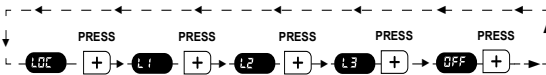

Figure 10
- Press the **Menu** () button five times to display the Lock Menu (Figure 10). The LED screen will display “LOC.”